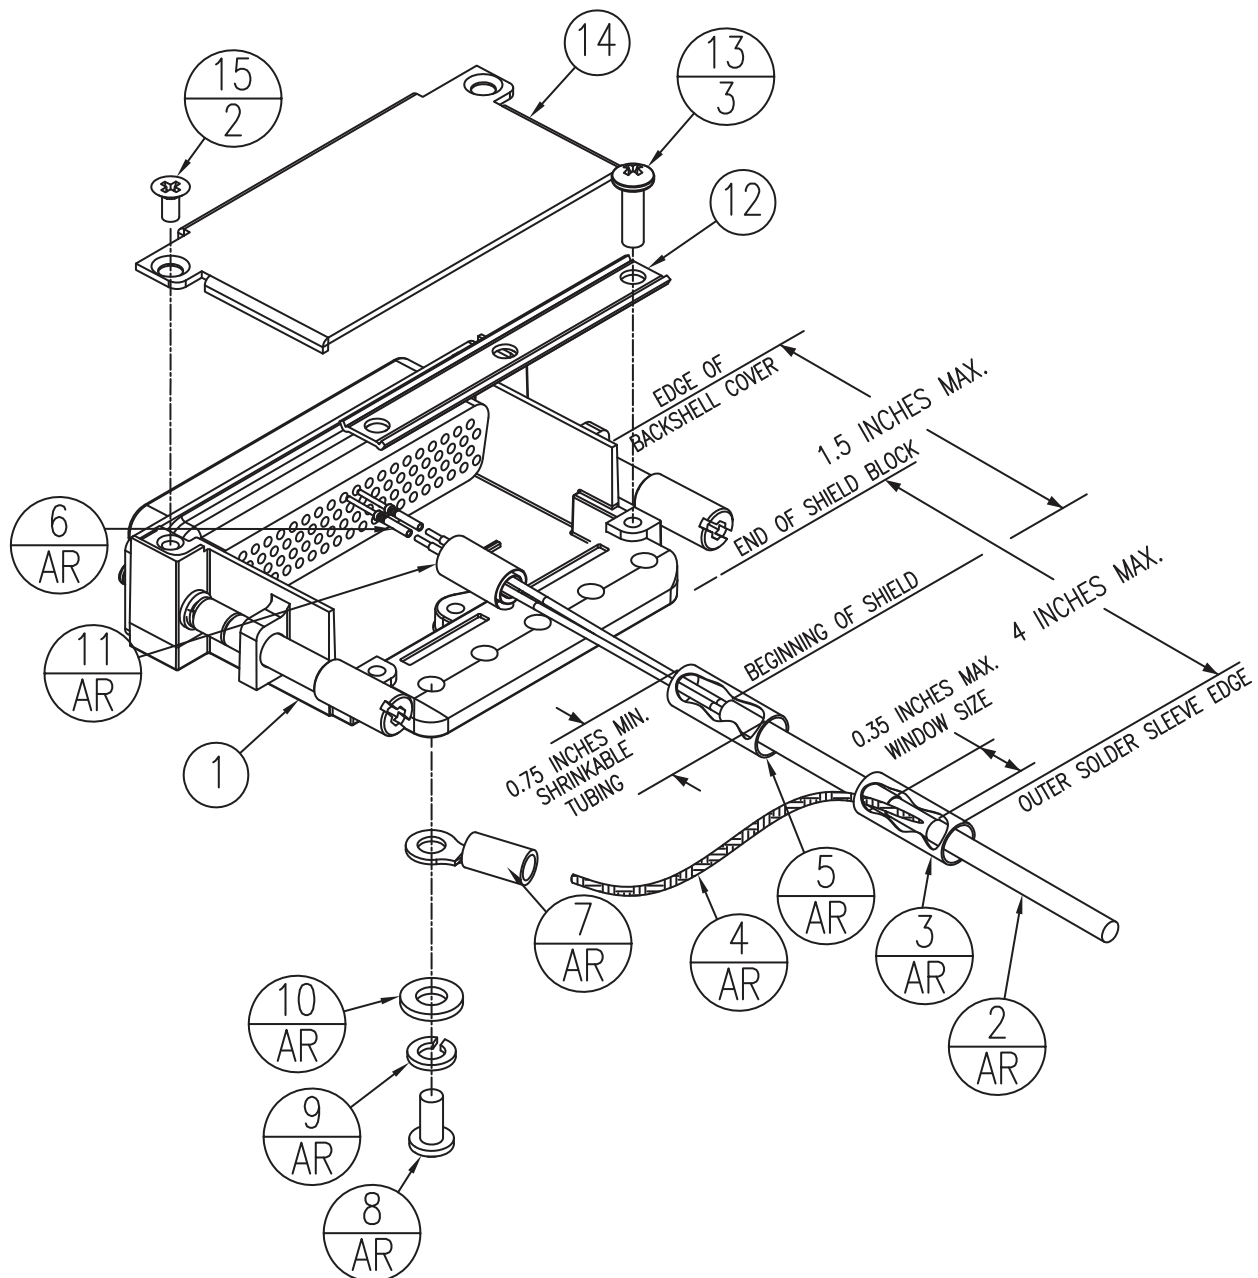
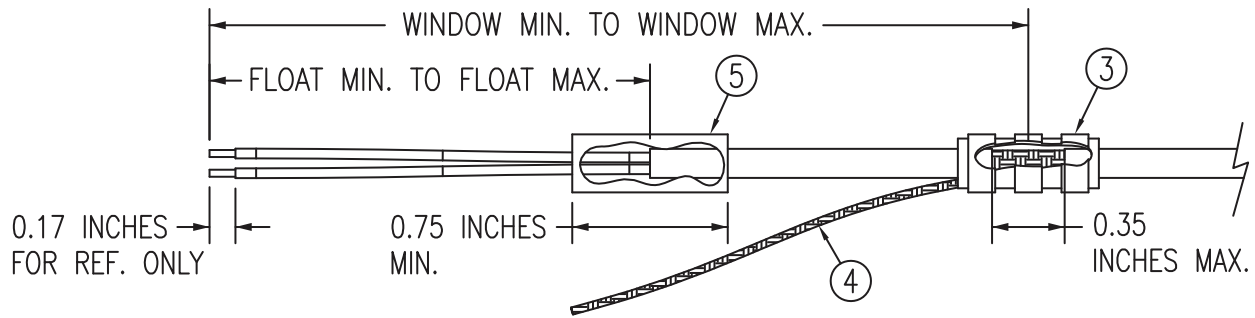
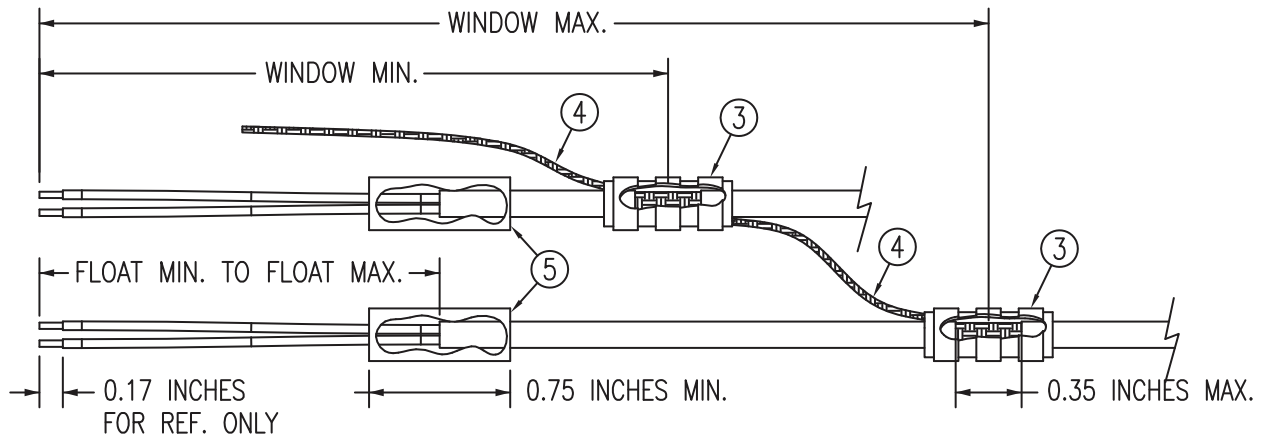
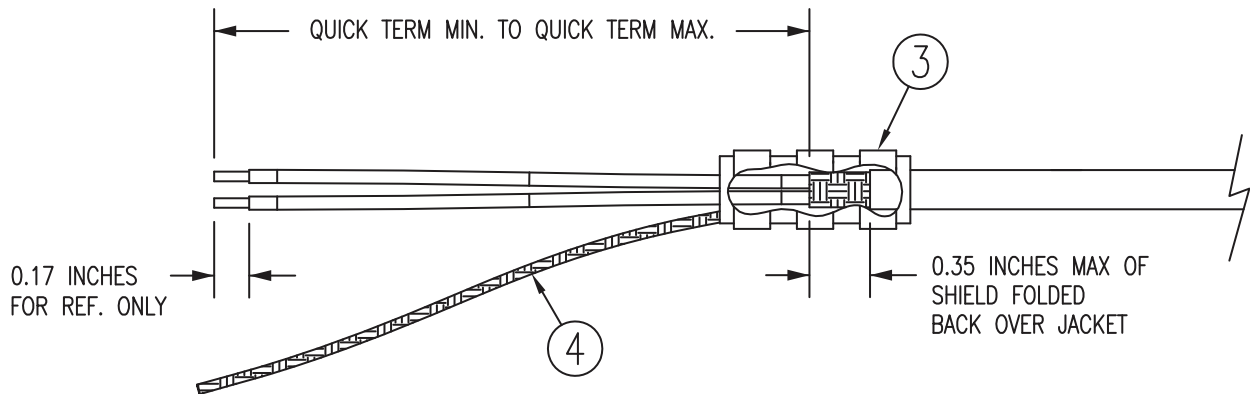

Figure 22-1 Shield Install onto a Jackscrew Backshell (78 pin example)
Figure 22-2 Method A.1 for Shield Termination
Figure 22-4 Method A.2 (Daisy Chain) for Shield Termination
Figure 22-5 Method B.1 (Quick Term) for Shield Termination
Table 22-1 and Table 22-2 list the parts needed to install a Shield Block, the item numbers in these tables correspond to Figure 22-1. Parts listed in Table 22-1 are supplied in the LRU Connector Kits (see Table 1-4). Parts listed in Table 22-2 are to be provided by the installer.
Table 22-1 Parts supplied for a Shield Block Installation (Figure 22-1)
Table 22-2 Parts not supplied for a Shield Block Installation (Figure 22-1)
In Figure 22-1, "AR" denotes quantity "As Required" for the particular installation.
22.2.2 Backshell Assembly (refer to Figure 22-1)
For the following steps please refer to Figure 22-1 and Figure 22-2.
2. At one end of a shielded cable (item 2, Figure 22-1) measure a distance between “Window Min” to “Window Max” (Table 22-3) and cut a window (max size 0.35”) in the jacket to expose the shield (item 4, Figure 22-2). Use caution when cutting the jacket to avoid damaging the individual braids of the shield. When dealing with a densely populated connector with many cables, it may prove beneficial to stagger the windows throughout the “Window Min” to “Window Max” range. If staggering is not needed the “Ideal Window” length is recommended.
3. Connect a Flat Braid (item 4, Figure 22-2) to the shield exposed through the window of the prepared cable assembly (item 2, Figure 22-1) from step 2. The Flat Braid should go out the front of the termination towards the connector. It is not permitted to exit the rear of the termination and loop back towards the connector (Figure 22-2). Make this connection using an approved shield termination technique.
Slide a solder sleeve (item 3, Figure 22-1) onto the prepared cable assembly (item 2, Figure 22-1) and connect the Flat Braid (item 4, Figure 22-2) to the shield using a heat gun approved for use with solder sleeves. It may prove beneficial to use a solder sleeve with a pre-installed Flat Braid versus having to cut a length of Flat Braid to be used. The chosen size of solder sleeve must accommodate both the number of conductors present in the cable and the Flat Braid (item 4, Figure 22-2) to be attached.
A preferred solder sleeve would be the Raychem S03 Series with the thermochromic temperature indicator (S03-02-R-9035-100, S03-03-R-9035-100, S03-04-R-9035-100). These solder sleeves come with a pre-installed braid and effectively take the place of items 3 and 4, Figure 22-2. For detailed instructions on product use, reference Raychem installation procedure RCPS 100-70.
Solder a Flat Braid (item 4, Figure 22-2) to the shield exposed through the window of the prepared cable assembly (item 2, Figure 22-1). Create a solid electrical connection through the use of acceptable soldering practices. Use care to avoid applying excessive heat that burns through the insulation of the center conductors and shorts the shield to the signal wire. Slide a minimum 0.75 inches of Teflon heat shrinkable tubing (item 3, Figure 22-2) onto the prepared wire assembly and shrink using a heat gun. The chosen size of heat shrinkage tubing must accommodate both the number of conductors present in the cable and the Flat Braid (item 4, Figure 22-2) to be attached.
4. At the same end of the shielded cable (item 2, Figure 22-1) and ahead of the previous shield termination, strip back “Float Min” to “Float Max” (Table 22-3) length of jacket and shield to expose the insulated center conductors (Figure 22-2). The “Ideal Float” length may be best to build optimally.
The jacket and shield should be cut off at the same point so no shield is exposed. Slide 0.75 inches minimum of Teflon heat shrinkable tubing (item 5, Figure 22-2) onto the cable and use a heat gun to shrink the tubing. The chosen size of heat shrinkage tubing must accommodate the number of conductors present in the cable.
Leave a max 0.35 inches of shield extending past the jacket. Fold this 0.35 inches of shield back over the jacket. Slide a solder sleeve (item 5, Figure 22-2) over the end of the cable and use a heat gun approved for solder sleeves to secure the connection. The chosen size of solder sleeve must accommodate the number of conductors present in the cable.
For the item numbers in the following steps 6-13 please refer to Figure 22-1.
In rare situations where more braids need to be terminated for a connector than three per ring terminal it is allowable to daisy chain a maximum of two shields together before coming to the ring terminal (Figure 22-4). All other restrictions and instructions for the shield termination technique set forth for Method A.1 are still applicable.
If desired, the drain wire termination (item 3, Figure 22-4) and the floating shield termination (item 5, Figure 22-4) can be effectively combined into a “Quick Term”. This method eliminates the float in the cable insulation and moves the placement of the window which was described by the dimensions “Window Min” and “Window Max” from Method A. This technique is depicted in Figure 22-5.
The original purpose for separating the shield drain termination (item 3, Figure 22-4) from the float termination (item 5, Figure 22-4) in Method A was to allow for a variety of lengths for the drain wires so the shield drain terminations (item 3, Figure 22-4) would not all “bunch up” in the harness and to eliminate loops in the drain wires. If Method B is chosen, as described in this section, care must be taken to make sure that all drain shield terminations can still be inspected. With connectors which require a large number of shield terminations it may be best to use Method A. This will allow the drain shield terminations (item 3, Figure 22-4) a larger area to be dispersed across.
At the end of the shielded cable (item 2, Figure 22-1), strip “Quick Term Min” to “Quick Term Max” (Table 22-4) length of the jacket to expose the shield. Next trim the shield so that at most 0.35 inches remains extending beyond the insulating jacket. Fold this remaining shield back over the jacket.
Connect a Flat Braid (item 4, Figure 22-1) to the folded back shield of the prepared cable assembly. The flat braid should go out the front of the termination towards the connector. It is not permitted to exit the rear of the termination and loop back towards the connector (Figure 22-5). Make this connection using an approved shield termination technique.
Solder a Flat Braid (item 4, Figure 22-5) to the folded back shield on the prepared cable assembly (item 2, Figure 22-1). Create a solid electrical connection through the use of acceptable soldering practices. Use care to avoid applying excessive heat that burns through the insulation of the center conductors and shorts the shield to the signal wire. Slide a minimum of 0.75 inches of Teflon heat shrinkable tubing (item 3, Figure 22-5) onto the prepared wire assembly and shrink using a heat gun. The chosen size of heat shrinkage tubing must accommodate both the number of conductors present in the cable as well as the Flat Braid (item 4, Figure 22-5) to be attached.